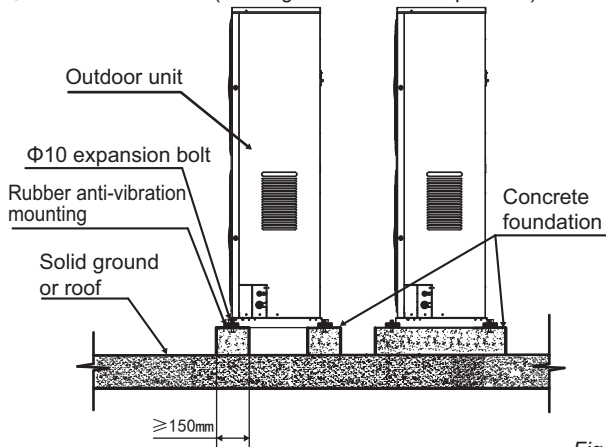

Fig.4-6
- ① Outdoor unit won't subside
- ② Outdoor unit won't generate abnormal noise caused by improper basement.
- ① Steel-frame basement
- ② Concrete basement(See Fig.4-6 for common practice)